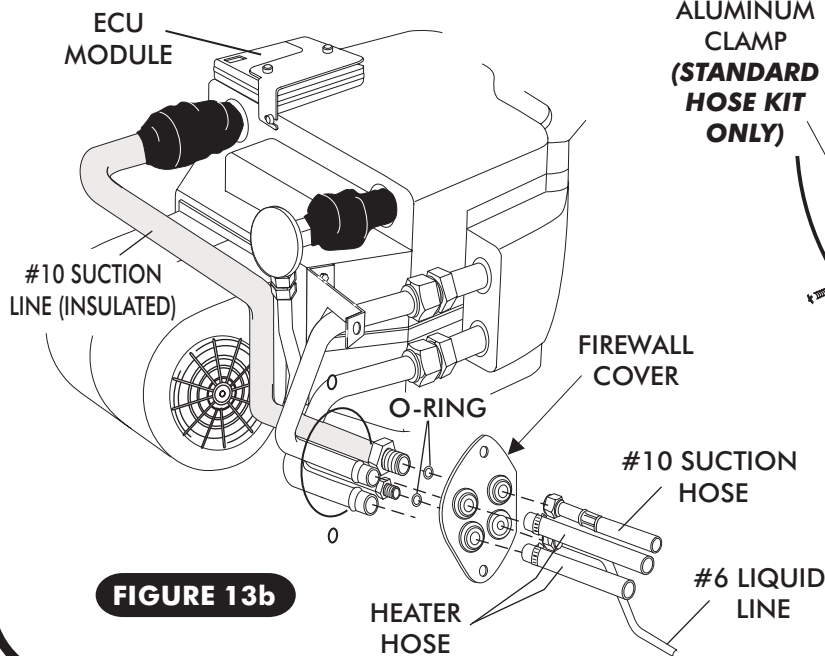

FIGURE 13b
- INSTALL THE #6 LIQUID LINE, LUBRICATE (1) #6 O-RING AND TIGHTEN. SEE FIGURE 13b, PAGE 14.